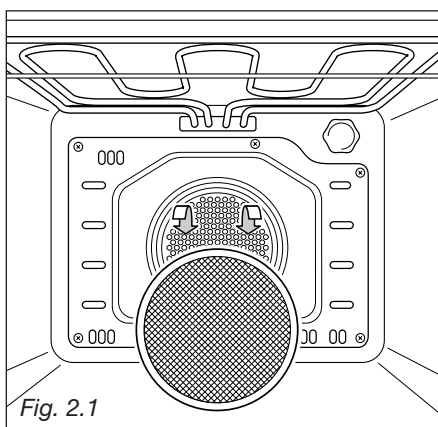

Fig. 2.1
- A special screen is provided at the back of the multifunction main oven to catch grease particles, mainly when meat is being roasted (fig. 2.1).